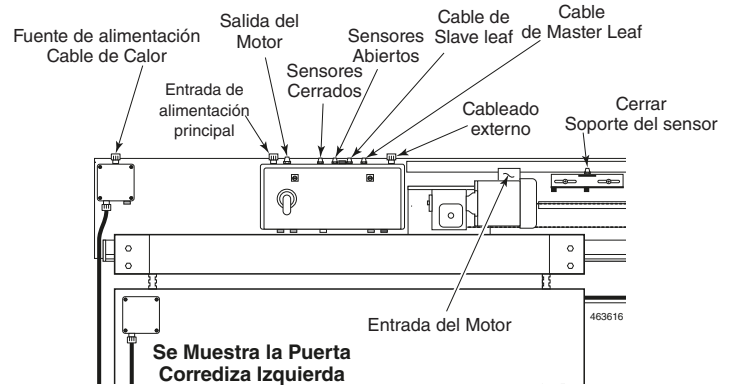

Figure 24
5. Install conduit and wire (according to code) from the pull switch through the external wiring port of the Control Panel. See *Figures 24 and 25*.